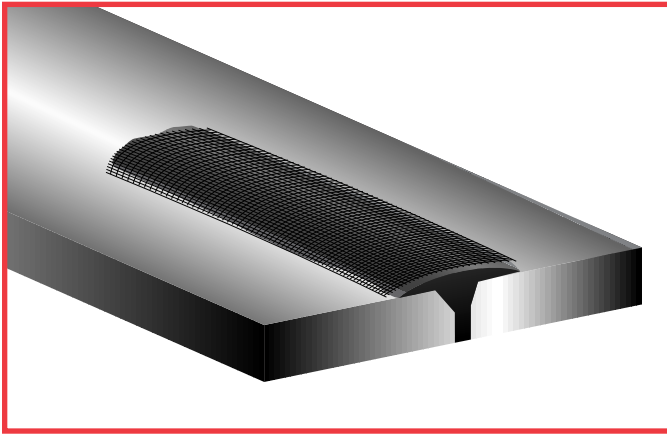

Figure 12. Reinforce the repair by applying tape over the epoxy.
- Using reinforcing mesh, such as fiberglass or wire screening, lay a strip of the reinforcement material over the application and imbed the tape into the epoxy. (See figure 12)